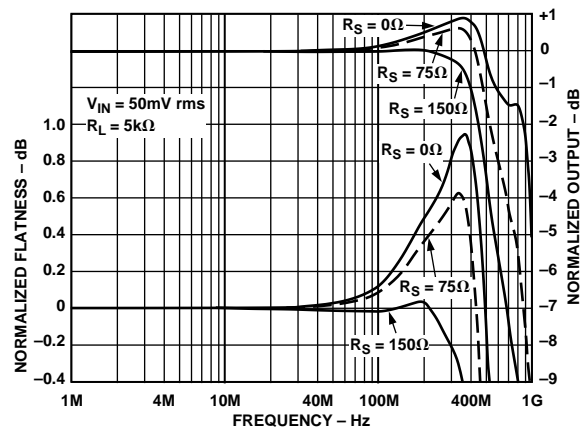

Figure 20. Frequency Response vs. Input Series Resistance
- NOTE 5: A resistor (R_S) placed in series with the mux inputs serves to optimize 0.1 dB flatness, but is not required. Increasing output capacitance will increase peaking and reduce bandwidth (see Figure 20).
Each open-loop buffer is implemented as a complementary emitter follower that provides high input impedance, symmetric slew rate and load drive, and high output-to-input isolation due to its β^2 current gain. The selected buffer is biased ON by fast switched current sources that allow the buffer to turn on quickly. Dedicated flatness circuits, combined with the open-loop architecture of the AD8180 and AD8182, keep peaking low (typically < 1 dB) when driving high capacitive loads, without the need for external series resistors at the input or output. If better flatness response is desired, an input series resistance (R_S) may be used (refer to Figure 20), although this will increase crosstalk. The dc gain of the AD8180 and AD8182 is almost independent of load